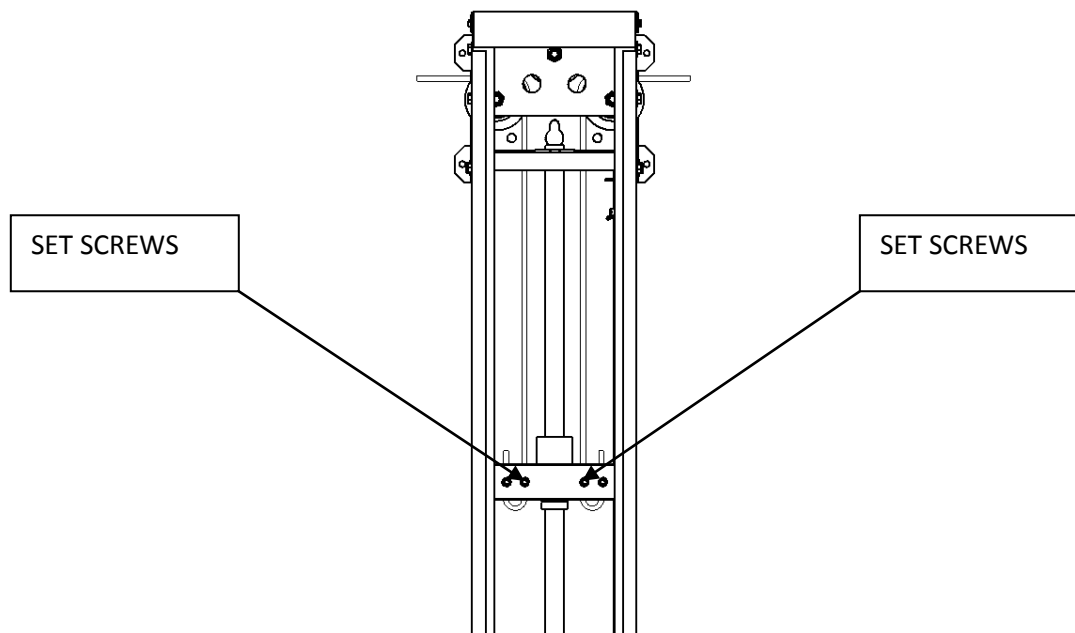

Figure 18
10. To secure cable to load block, run cable through hole nearest the center in load block, then loop back up through the outboard hole. Tighten all set-screws. **(Figure 18)**